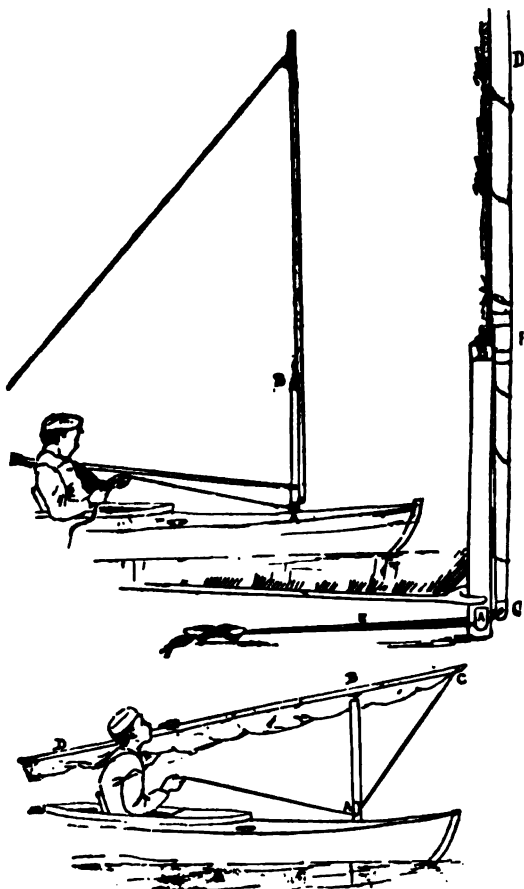

FIG. 94.—A New Device.
"Fig. 94 shows a device, published for the first time in the *St. Nicholas Magazine* for September, 1880, which enables the sailor to step and unstep his mast, and hoist or lower his sail without leaving his seat—a matter of great importance when the boat is light and tottish, as in the case of that most beautiful of small craft, the modern canoe, where the navigator sits habitually amidships. The lower mast (A, B, Fig. 94) stands about two and a half feet above the deck. It is fitted at the head with a metal ferrule and pin, and just above the deck with two half-cleats or other similar devices (A). The topmast (C, D) is fitted at F with a stout ring, and has double halyards (E) rove through or around its foot. The lower mast being in position (see lower part of Fig. 94), the canoeist desiring to make sail brings the boat's head to the wind, takes the top-mast with the sail loosely furled in one hand, and the halyards in the other. It is easy for him by raising this mast, without leaving
Then, holding the halyards taut enough to keep them in position, he will hook the topmast ring over the pin in the lower mast-head and haul away (see top part of Fig. 94). The mast will rise into place, where it is made fast. A collar of leather, or a knob of some kind, placed on the topmast just below the ring, will act as a fulcrum when the halyards are hauled taut, and keep the mast from working to and fro.
den shift of wind. Its most convenient form is shown in Fig. 95. The arrangement for shipping and unshipping the yard is precisely like that shown in Fig. 94—a short lower mast with a pin at the top and a ring fitted to the yard. It has a boom at the foot which is joined to the yard at C by means of a hook or a simple lashing, having sufficient play to allow the two spars to shut up together like a pair of dividers. The boom (C, E) has, where it meets the short lower mast, a half cleat or jaw, shown in detail at the bottom of the cut (Fig. 95), the circle representing a cross